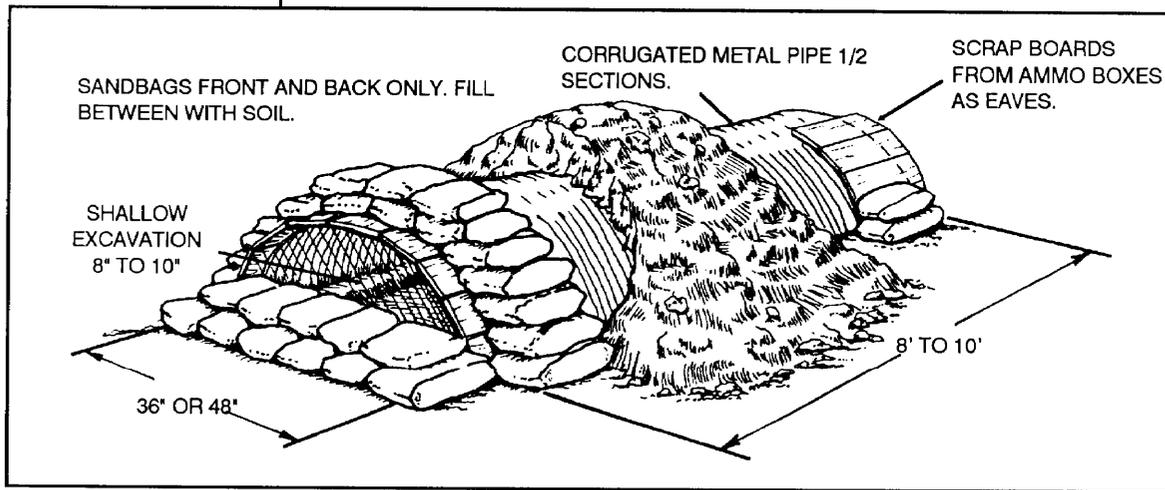

Figure 7-8. Corrugated metal culvert halves used as personnel shelter.
b. **STAGE II.** When time allows, increase protection by constructing personnel shelters with overhead cover. Construct the personnel shelters perpendicular to the principal direction of fire with firing ports positioned as determined by assigned small-arms sectors of fire. Build the shelters at the same depth (1.5 meters) as the pit, and 1½ M16-rifle lengths (1.5 meters) wide, and 2½ M16-rifle lengths (2.5 meters) long on opposite sides of the pit with a minimum of ½ an M16-rifle length (0.5 meters) of overhead cover. There should be a blast barrier of at least two sandbags in thickness separating the personnel shelters from the mortar pit. The firing ports can be made using wooden ammunition boxes with the bottoms knocked out. Personnel should use sandbags to adjust the opening to the smallest usable size. Corrugated metal culvert halves covered with earth make excellent personnel shelters (Figure 7-8, see page 7-10). Whatever design is selected, it should never support the weight of the overhead cover on sandbags. Use timber or some other structurally sound material.